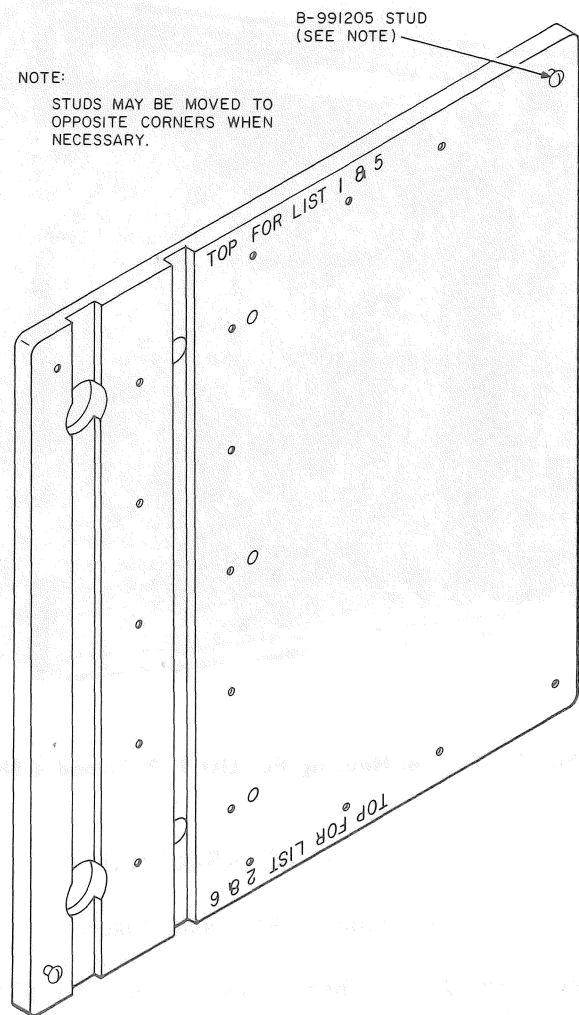

Fig. 4—B-991082 Backboard Assembly
- (a) Wooden backboard (Fig. 4) (surface mountings only).
(a) The wooden backboard for surface mounted shelves (Fig. 4) is provided with a 4-inch diameter hole in the upper left corner (for List 1 or 5 shelves) or in the upper right corner (for List 2 or 6 shelves). The purpose of this hole is to position over an electrical socket and eliminate exposing the electrical cable.